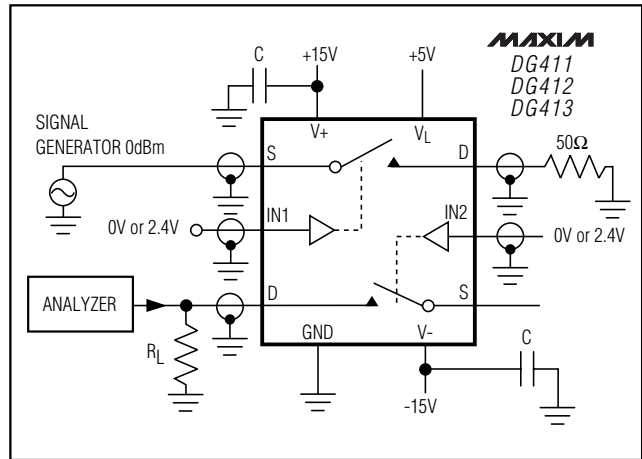

Figure 6. Crosstalk
**Note 6:** Between any two switches. See Figure 6.
**Note 7:** Leakage parameters IS(OFF), ID(OFF), and ID(ON) are 100% tested at the maximum rated hot temperature and guaranteed by correlation at +25°C.